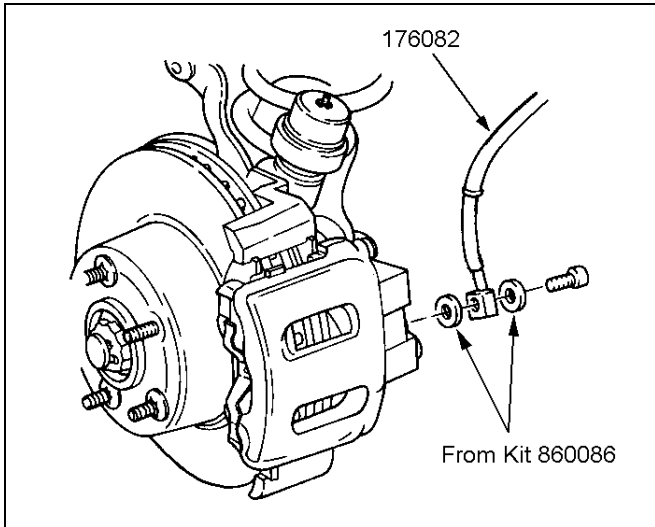

Figure 8
- 3) ☒ Attach left brake hose RS170082 to the caliper with NEW copper washers from kit RS860086, and the original bolt. See figure 8. Tighten the bolt to 23 ft.-lbs.